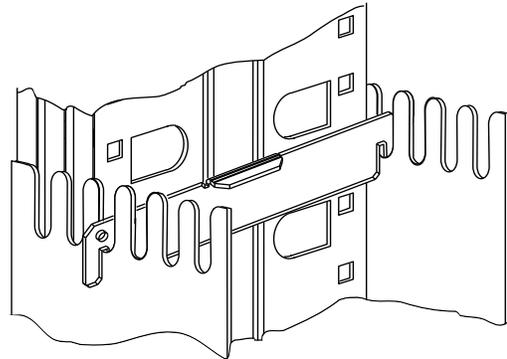

Figure 11
8.7 When all the organizers are loaded, swing them up into a vertical position and secure them with the organizer retainer (Figure 11).